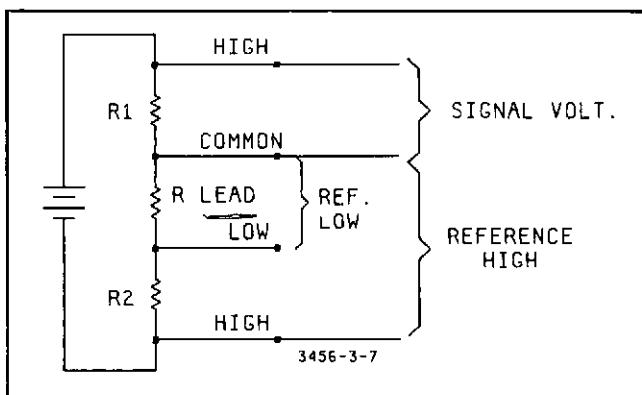

Figure 3-7. Typical Ratio Measurement.
c. Typical Ratio Measurement. Matching resistor values for an accurate voltage divider is one way to use the 3456A's Ratio feature. Try this by using the set up in Figure 3-7. Connect the instrument as indicated in the figure. Make sure that REFERENCE LOW is connected at the top of R2 and that Signal (Volts) Common is connected at the bottom of R1. Once the instrument is connected and placed in the DCV/DCV Ratio mode, a Ratio Measurement is made. The voltage drop across R1 and R2 is measured including any offset voltages between Signal Common and Reference Low. The offset voltage is used to compensate for any error causing voltages between the input and resistors. Once all the measurements are taken, the Ratio Measurement is displayed on the front panel. If the resistors are equal in value, the reading should be approximately "-1.00000".